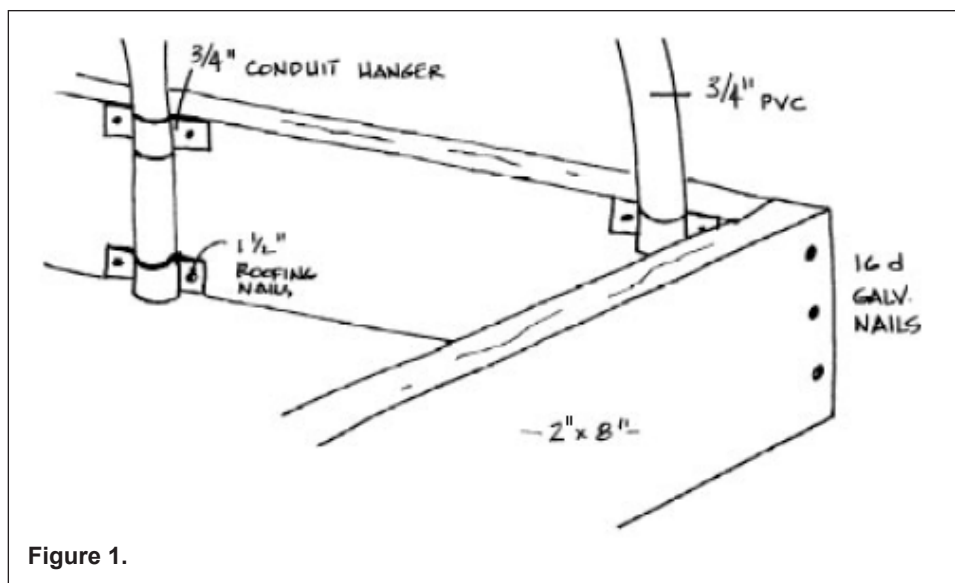

Figure 1.
**Figure 4.** This overwintering structure has a dual purpose: It is overwintering plants in various container sizes, and it is being used as a propagation structure. The grower has set dormant (hardwood) stem cuttings in containers filled with propagation medium. By watering them at least once a week, he can root the cuttings by spring. He wrote the names of the plants on tags in each pot. Correct nomenclature and plants being true to name are very important to keep organized in production. To increase the burden the structure can bear, a 2" x 4" "purlin," or center line, has been added to hold the PVC bows straight and the endwalls upright. This was done by using wood endwalls as noted in Figure 1. Use of a purlin will not work if the endwalls are kept open. In that case, use cord or wire instead to attach the bows together as mentioned above.